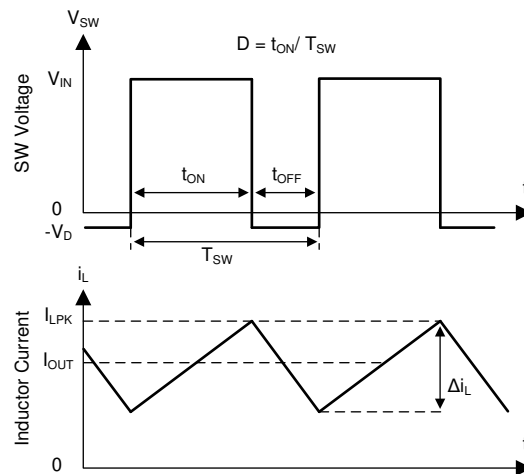

Figure 10. SW Node and Inductor Current Waveforms in Continuous Conduction Mode
The following operation description of the LM76002/LM76003 refers to the Functional Block Diagram and to the waveforms in Figure 10. The LM76002/LM76003 supplies a regulated output voltage by turning on the internal high side (HS) and low side (LS) NMOS switches with varying duty cycle (D). During high-side switch on-time t_{ON} , the SW pin voltage V_{SW} swings up to approximately V_{IN} , and the inductor current i_L increase with linear slope. The HS switch is off by the control logic. During the HS switch off-time, t_{OFF} , the LS switch is turned on. Inductor current discharges through the LS switch, which forces the V_{SW} to swing below ground by the voltage drop across the LS switch. The regulator loop adjusts the duty cycle to maintain a constant output voltage. The control parameter of buck converter is defined as duty cycle $D = t_{ON} / t_{SW}$. In an ideal buck converter, where losses are ignored, D is proportional to the output voltage and inversely proportional to the input voltage: $D = V_{OUT} / V_{IN}$.
Considering power losses in the system with heavy load operation, V_{IN-MIN} is higher than the result calculated in FIG 10. With frequency foldback, V_{IN-MIN} is lowered by decreased f_{SW} . When the device is operating in auto mode at voltages near maximum rated input voltage and light load conditions, an increased output voltage ripple during load transient may be observed. For this reason TI recommends that device operating point be calculated with sufficient operational margin so that minimum on-time condition is not triggered.